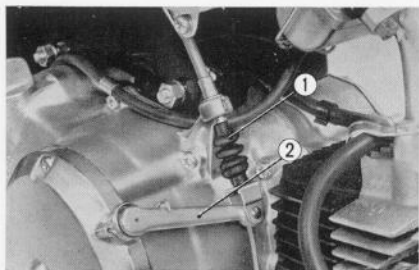

Fig. 3.4 Disconnecting the clutch cable
4. Disconnect the clutch cable ① from the clutch lever ②. (Fig. 3.4)